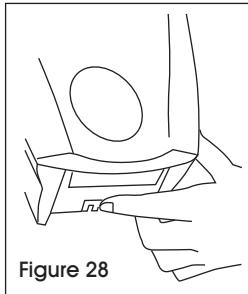

Figure 28
1. Open the dispenser by pushing up on the release latch (use key if you have converted to the keyed locking mode). The latch is on the bottom back edge in the center. (See Figure 28)